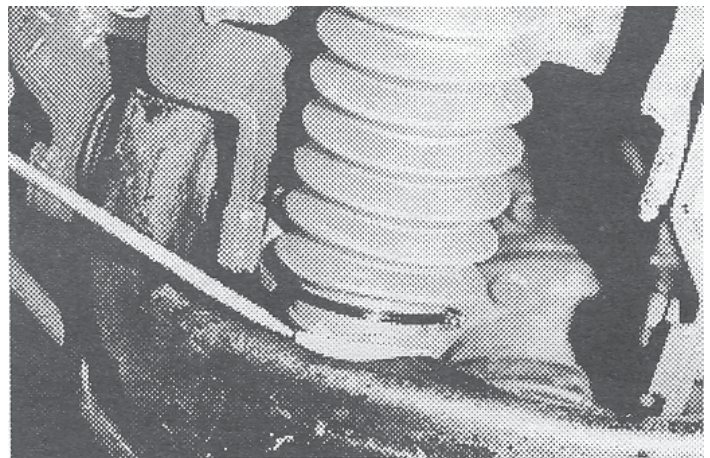

Fig. 43
42. Reinstall upper A-arms into TM brackets using OE "D" bolts. Engage ball joint, **do not tighten at this time**. Check clearance between A-arm and shock with "D" bolts adjusted inward as far as possible. Minimum clearance to shock 1/8". Using template supplied, relieve and dress control arm to gain clearance. All corners should be radiused and smooth. **Do not use torch. Fig 43.**